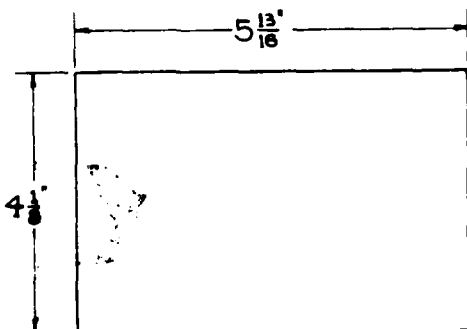

FIGURE 1 - CUTOUT
1. Cut hole in wallboard with electric sabre-saw, following figure 1 exactly.